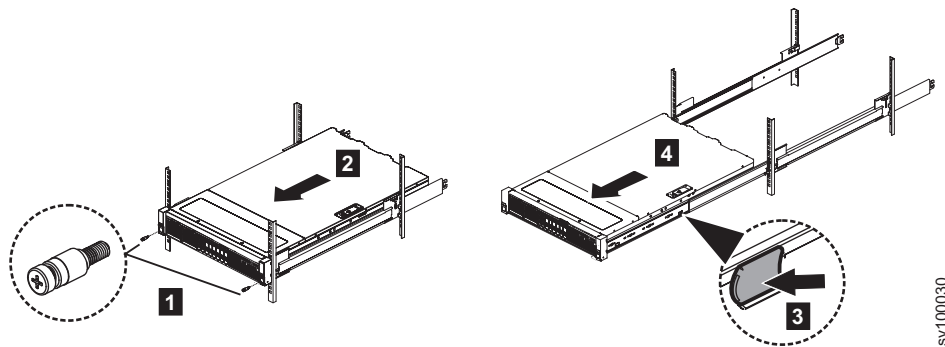

Figure 5. Sliding the node out of the rack and removing the front screws
2. Optional: Remove the front screws and slide the node out of the rack, as shown in Figure 5.